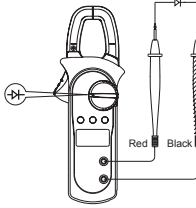

Figure 5
C. Testing Diodes (See Figure 5)